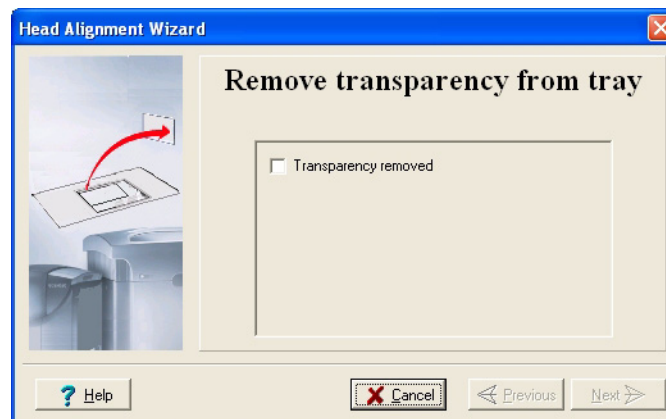

Figure 7-28: Head Alignment wizard—steps 8–10
10. In the wizard screen shown in figure 7-28, select the *Transparency removed* check box, and click **Next**.